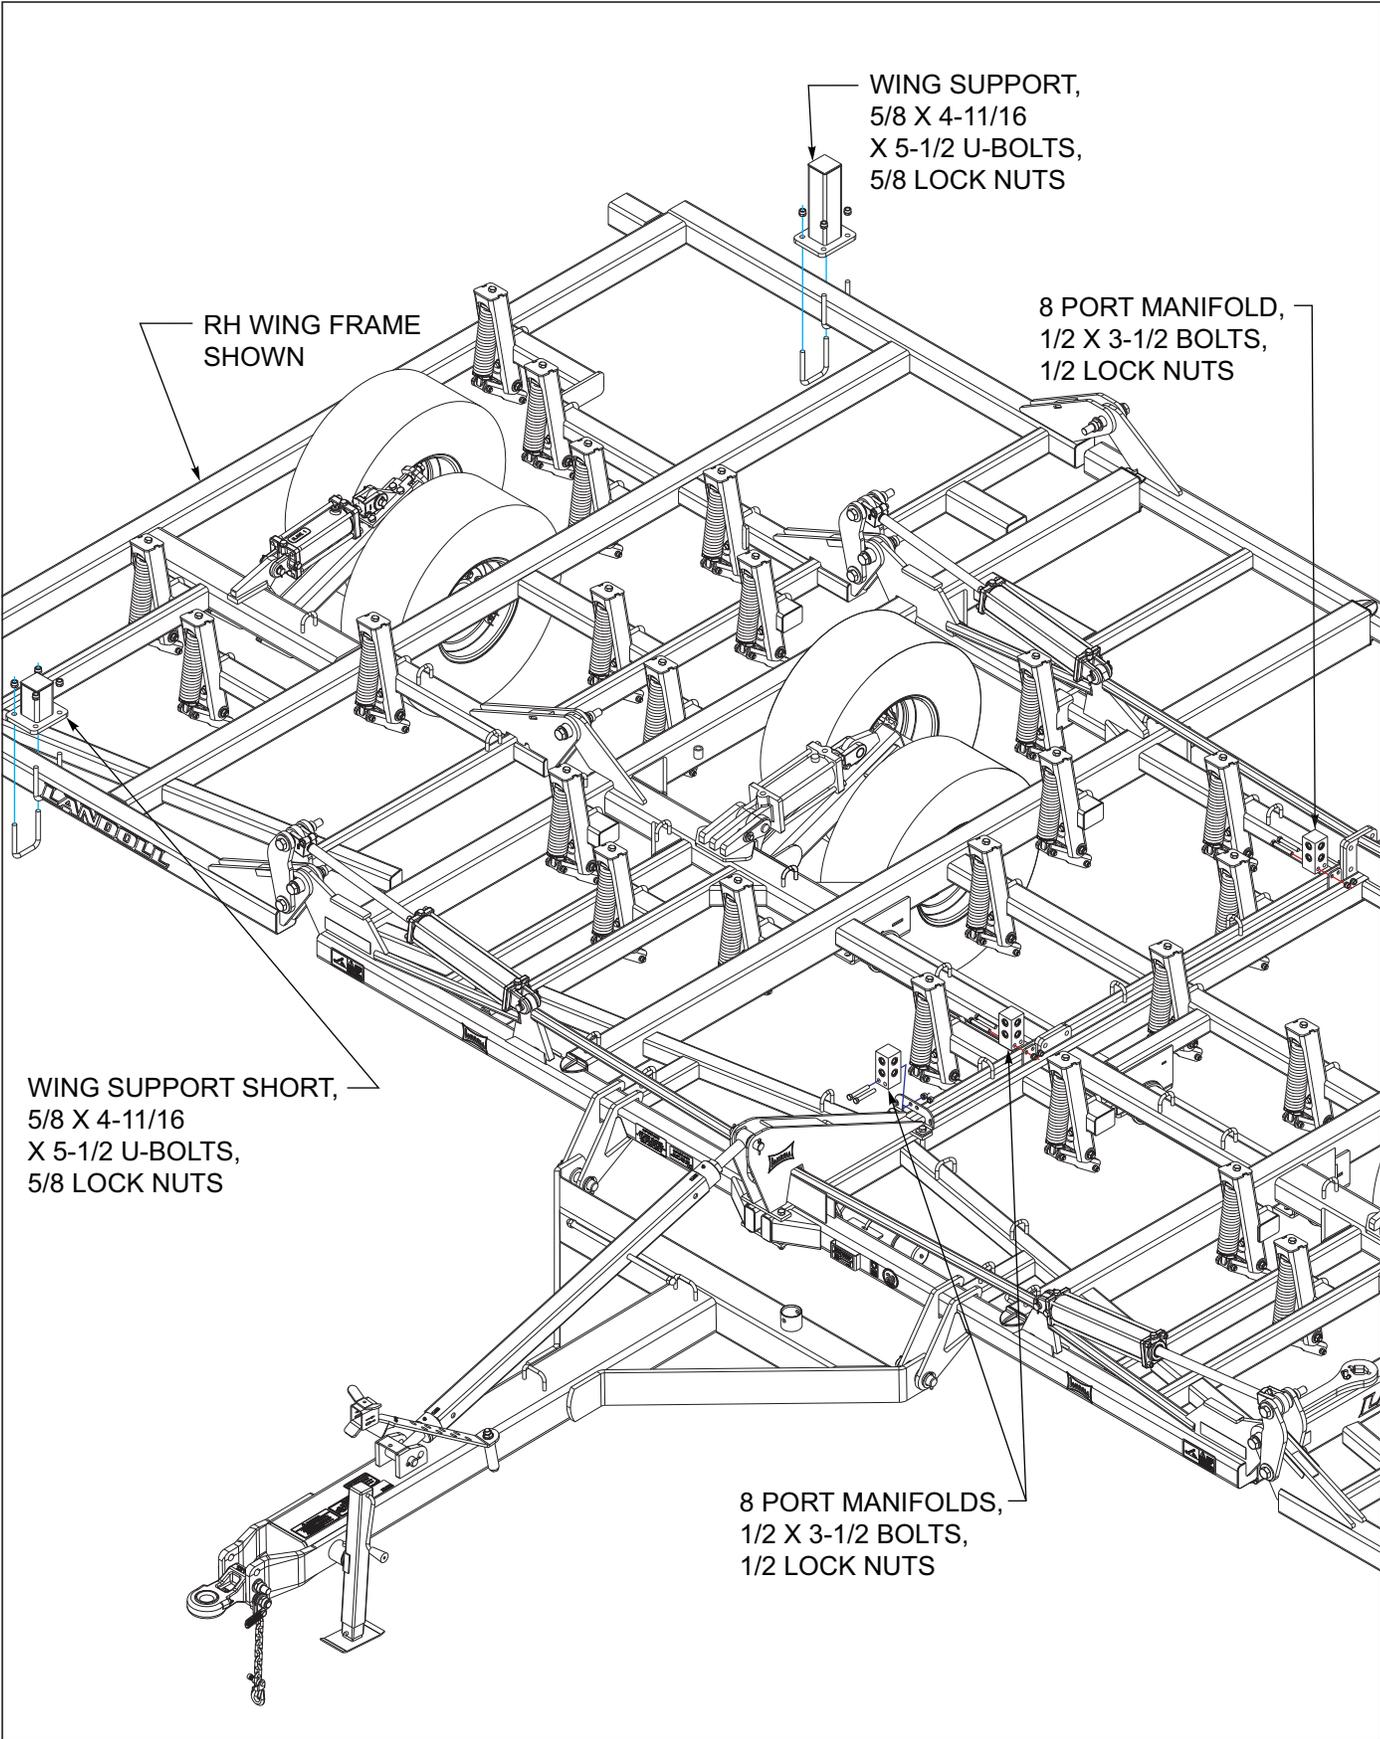
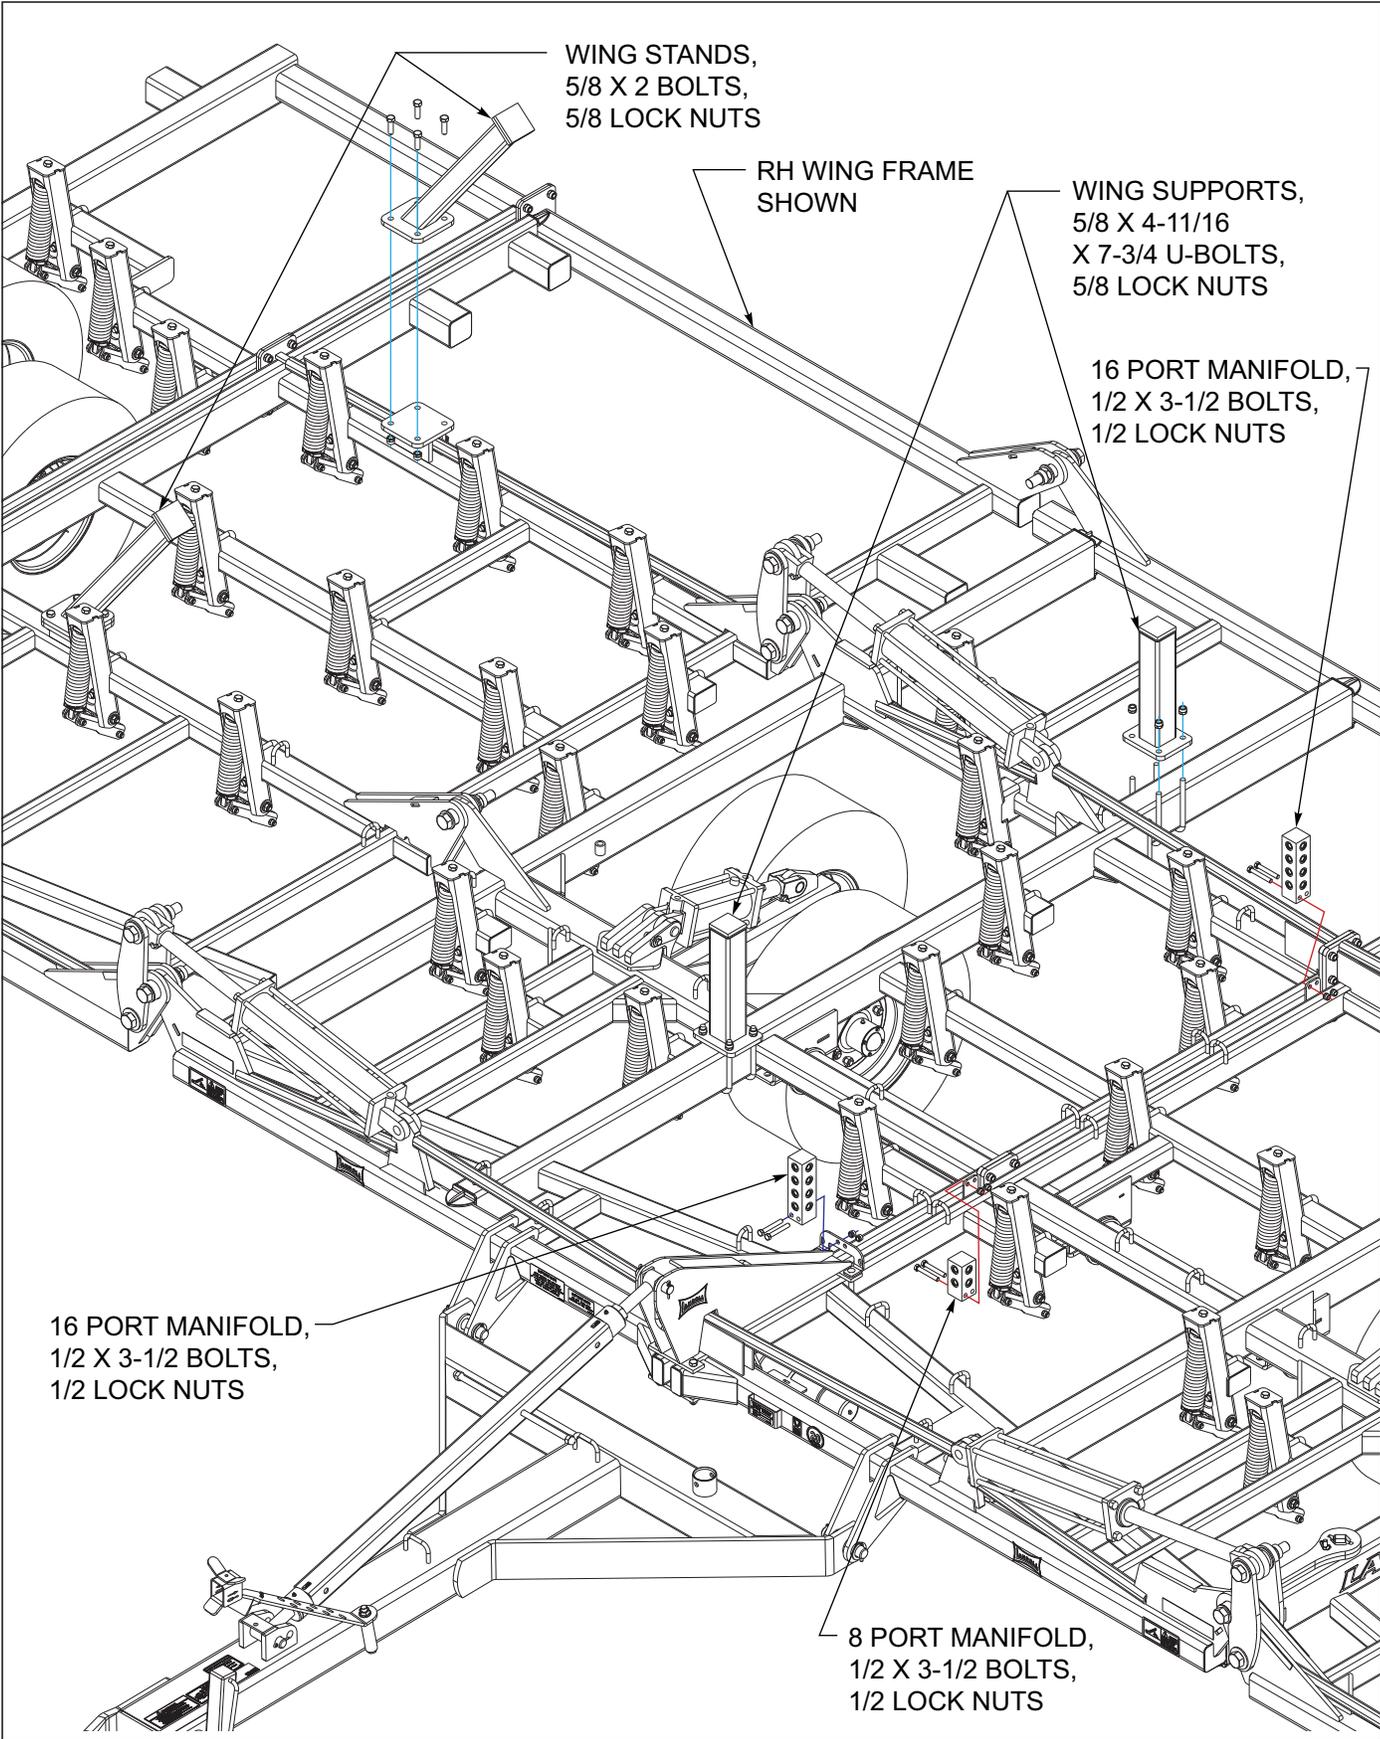
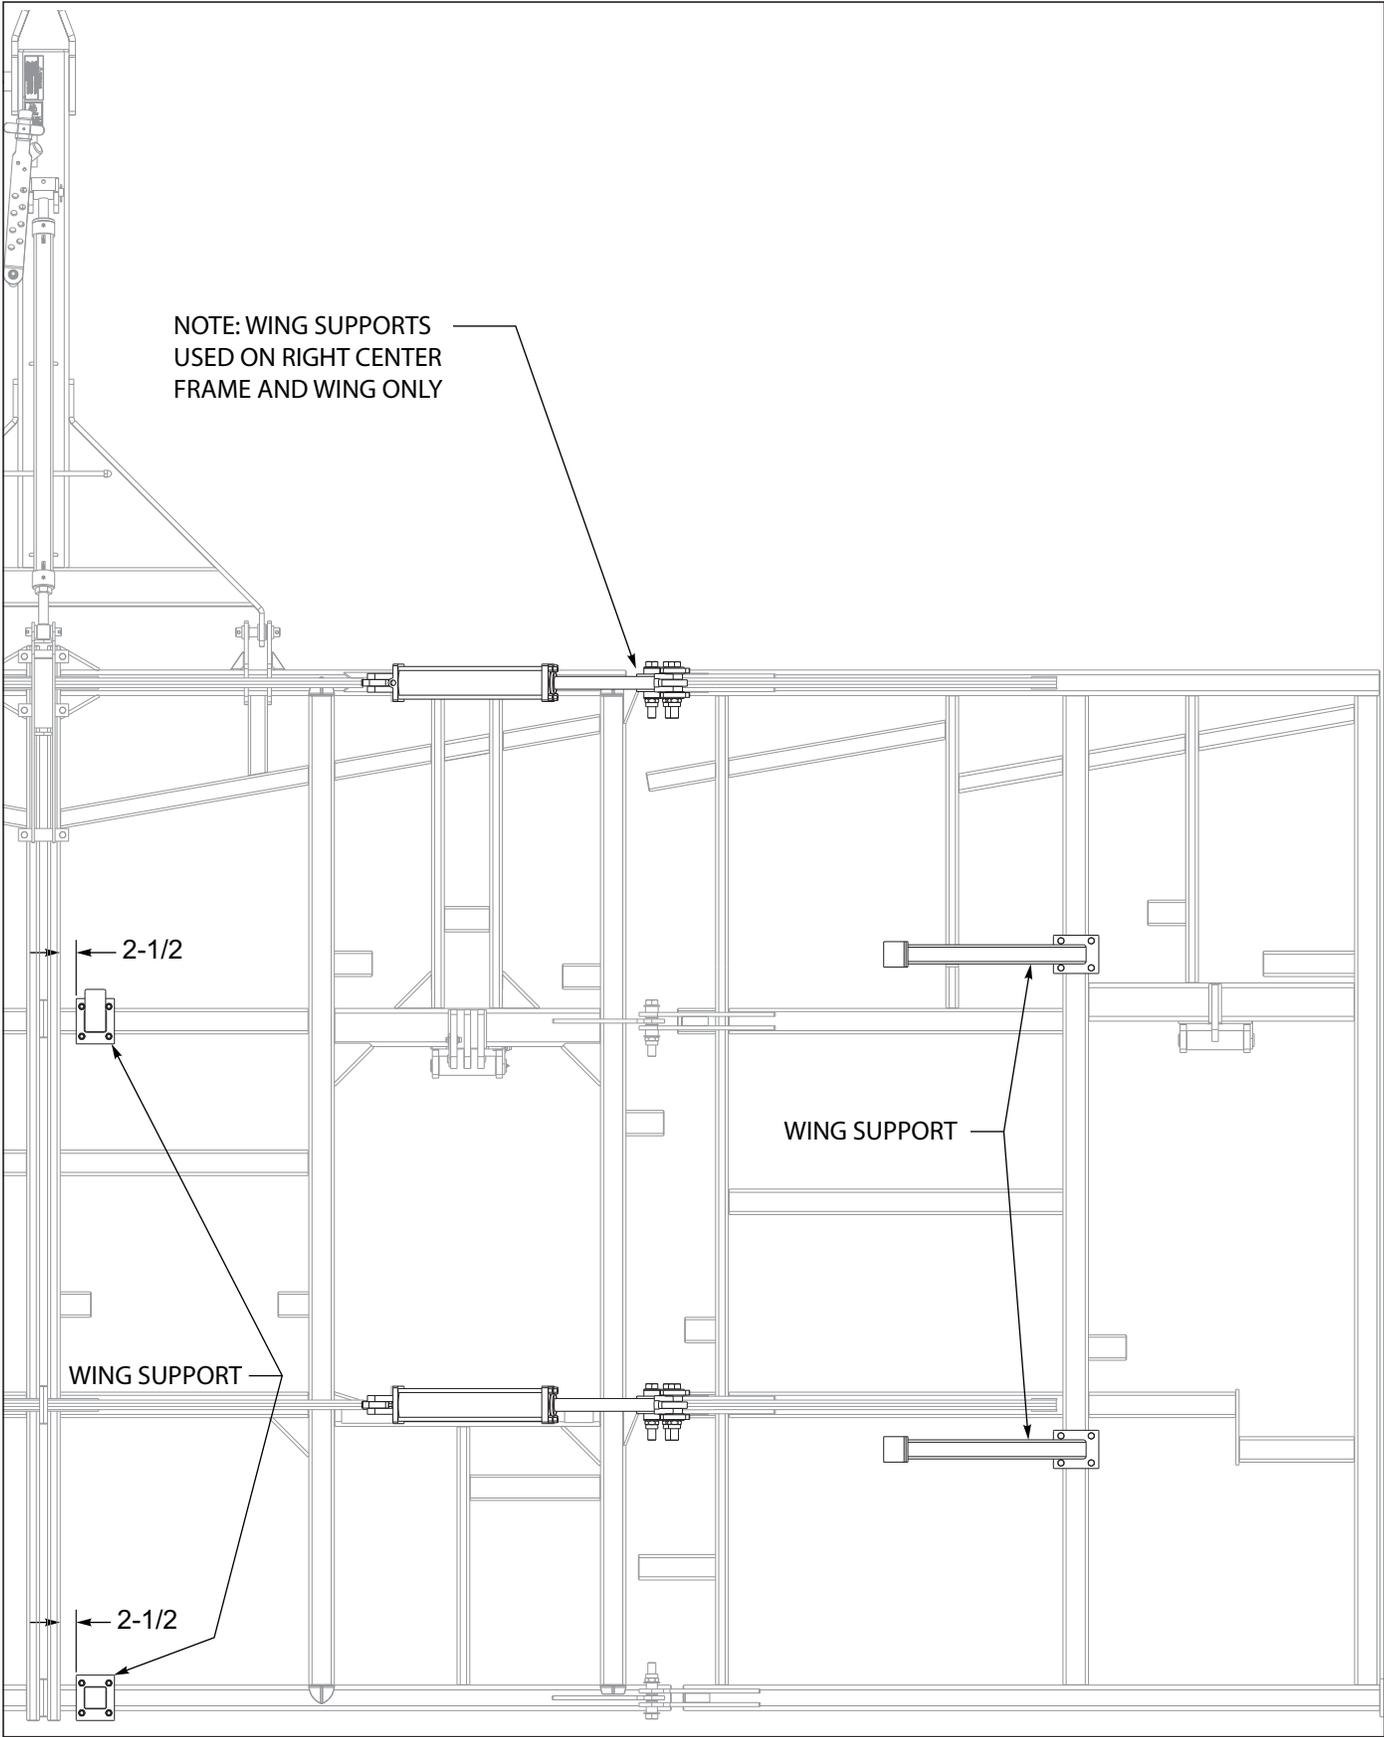

Figure 3-7: Wing Support Assembly 30'
Figure 3-9: Wing Support Assembly 40'
Figure 3-11: Wing Supports Placement 35' RH
1. **See Figures 3-7** for 30' models, assemble the wing supports to the RH and LH wing frames using 5/8 x 4-11/16 x 5-1/2 u-bolts and 5/8 lock nuts (**See “Wing Supports Placement 30” on page 3-14.**).
3. **See Figures 3-9** for 40' models, assemble the wing supports to the RH center frame using 5/8 x 4-11/16 x 7-3/4 u-bolts and 5/8 lock nuts and to the RH wing frame using 5/8 x 2 bolts and 5/8 lock nuts (**See “Wing Supports Placement 40' RH” on page 3-16.**).
4. Install the 8 or 16 port manifolds to center frame using 1/2 x 3-1/2 bolts and 1/2 lock nuts. **See Figures 3-7** (877-30' model), **See Figures 3-11** (877-35' model), **See Figures 3-9** (877-40')